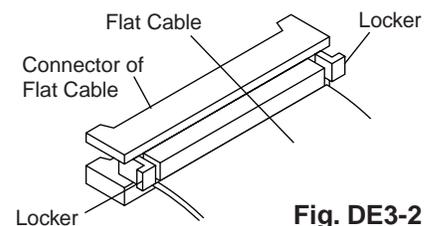

Fig. DE3-2
- a) Pull out the locker of connector as shown in Fig. DE3-2.